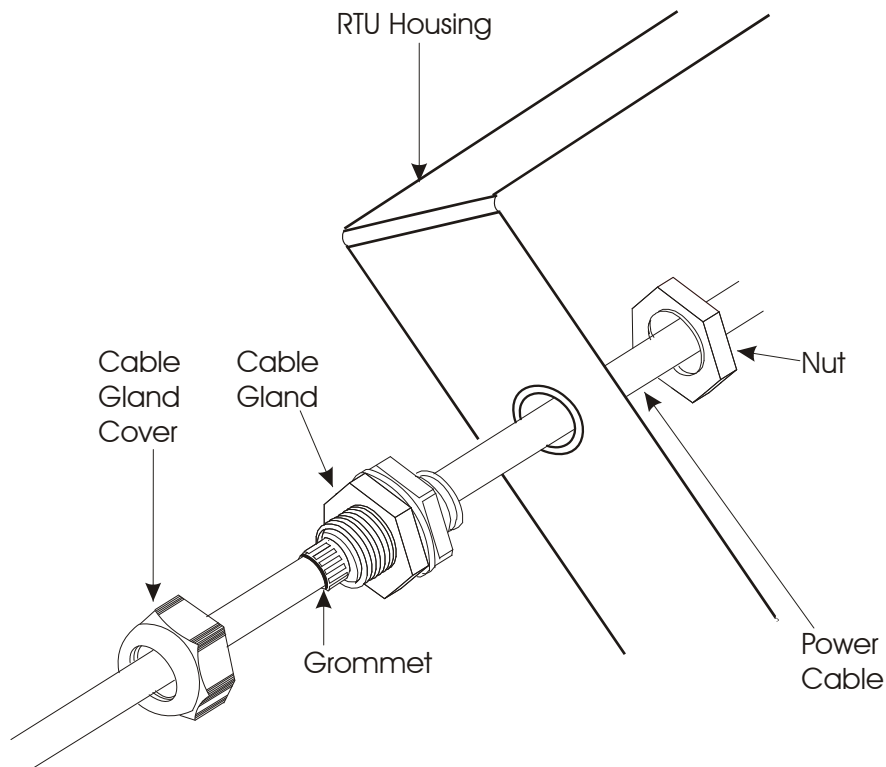

Figure 2-22 RTU in NEMA 4 Housing – Cable Gland Anchor Point 2
Anchor point 2 for all units with housing (other than No I/O Slots) is in the housing power cable gland. (See Figure 2-22 below.)
- 2) Insert the rubber grommet (supplied) into the threaded plastic cable gland, and place it into the hole on the bottom of the housing (from the outside.) (See Figure 2-22.)
- 3) Place the nut into the same hole from inside the housing and screw the nut onto the cable gland. (See Figure 2-22.)
- 4) Thread the user's main power cable (110/220VAC or 24-48VDC) through the cable gland cover from below, through the cable gland, and into the housing. (See Figure 2-22.)